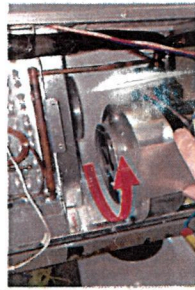

Figure 3
4. Swing the bottom leg of the fan bracket towards you and roll the fan out. (Figure 3)